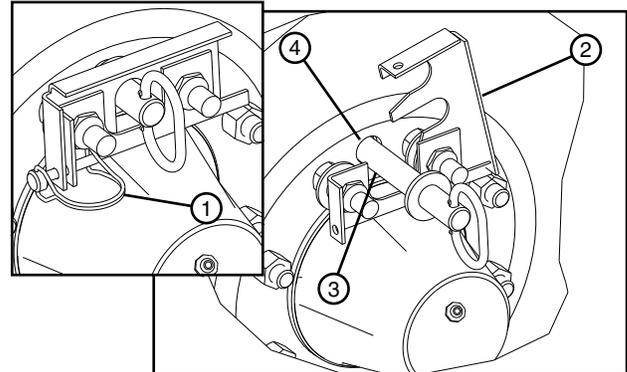

Figure 59-1 1. Lynch Pin 2. Retainer Clip 3. Torque Pin 4. Hub Torque Pin Receiver
5. Remove the torque pin from the hub torque pin receiver of both cart wheels. This will allow both wheels to rotate. See Figure 59-1.